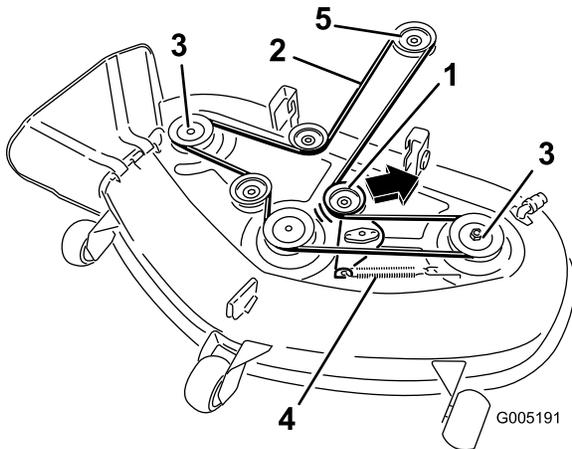

Figure 44
- Pull the idler pulley in the direction shown in Figure 44 and roll the belt off of the pulleys.
- Route the new belt around the engine pulley and mower pulleys (Figure 44).
- Pull the idler pulley in the direction shown in Figure 44 and route the belt onto the idler pulley (Figure 44).